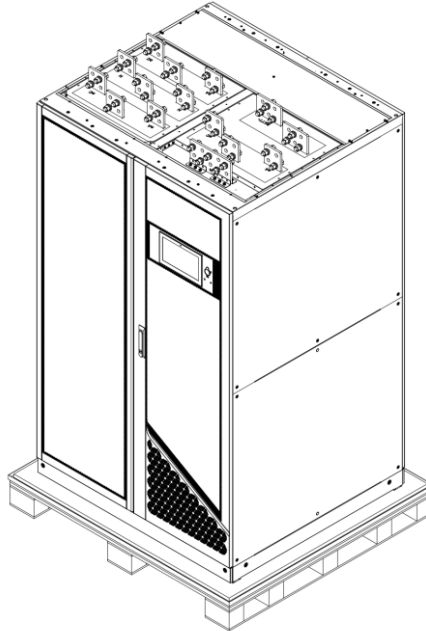

Figure 3-40 Remove the cushioning foam
Step 4: After opening the wooden box, remove the cushioning material, as shown in Figure 3-40 below;